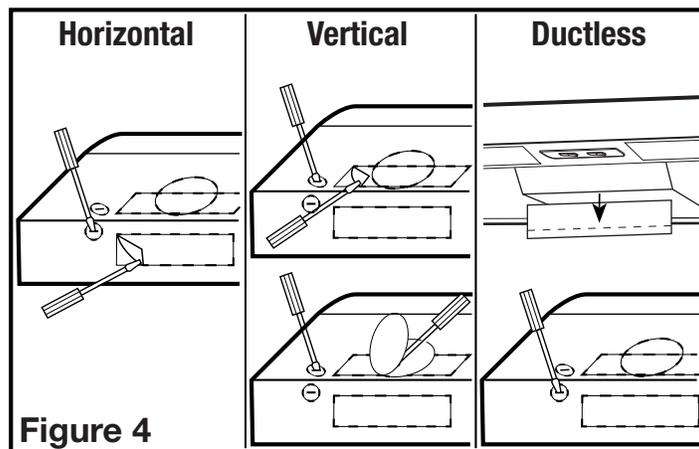

Figure 4
- 2a. **Horizontal or Vertical** - Remove the rectangular knockout by inserting a screw driver under the edge and break the tabs holding it in place. Peel back with pliers (**Figure 4**).
- 2b. **Ductless** - From inside the hood, depress the latches with your fingers before removing the shutter. Pull down on the tab in front of the fan blade. Bend the shutter at the creased area and break the top part of the shutter off and discard. Insert the remaining part of the shutter back into the slot (**Figure 4**).
- 2c. **7" Round** - Remove the round knockout located on the top of the hood by inserting a screw driver under the edge and break the tabs holding it in place. Peel back with pliers (**Figure 4**).
3. Determine where the electrical service will enter the hood and remove the appropriate electrical knockout by inserting a screw driver into the slot and rocking back and forth until the knockout comes loose (**Figure 4**).